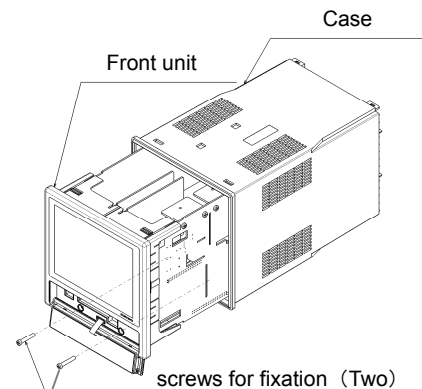

Fig. 15-3-1. Taking out of internal unit
1) Taking out of internal unit (Fig.15-3-1.)